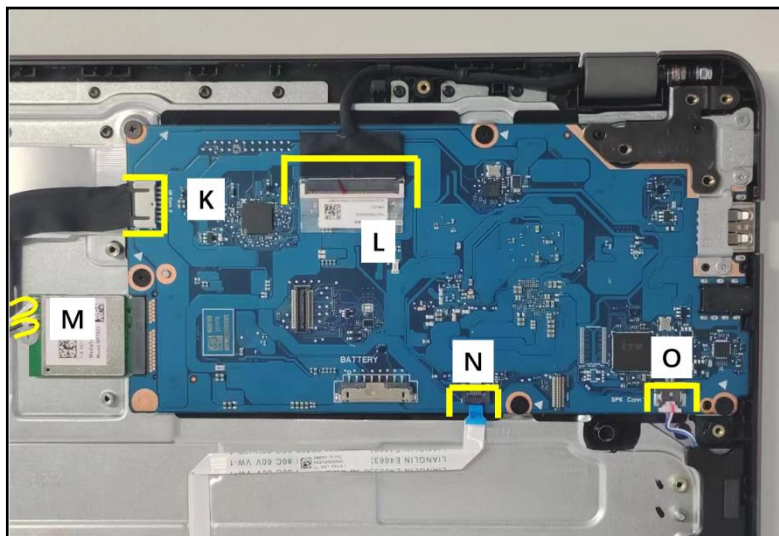

Figure 3-88. Replacing the Mainboard
8. Connect the UB cable to the mainboard connector (K) (Figure 3-88).
9. Connect the EDP cable to the mainboard connector (L) (Figure 3-88).
10. Connect the WLAN antenna cables to the WLAN module connectors (M) (Figure 3-88).
11. Connect the touchpad FFC to the mainboard connector (N) (Figure 3-88).
12. Connect the speaker cable to the mainboard connector (O) (Figure 3-88).